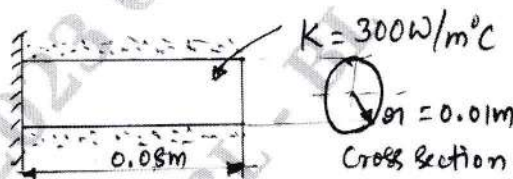

Fig.Q.9(b)
b. Calculate the temperature distribution in a 1-D fin with the physical properties given in Fig.Q.9(b). There is a uniform generation of heat inside the wall of  $\bar{Q} = 400\text{W/m}^3$ . (10 Marks)